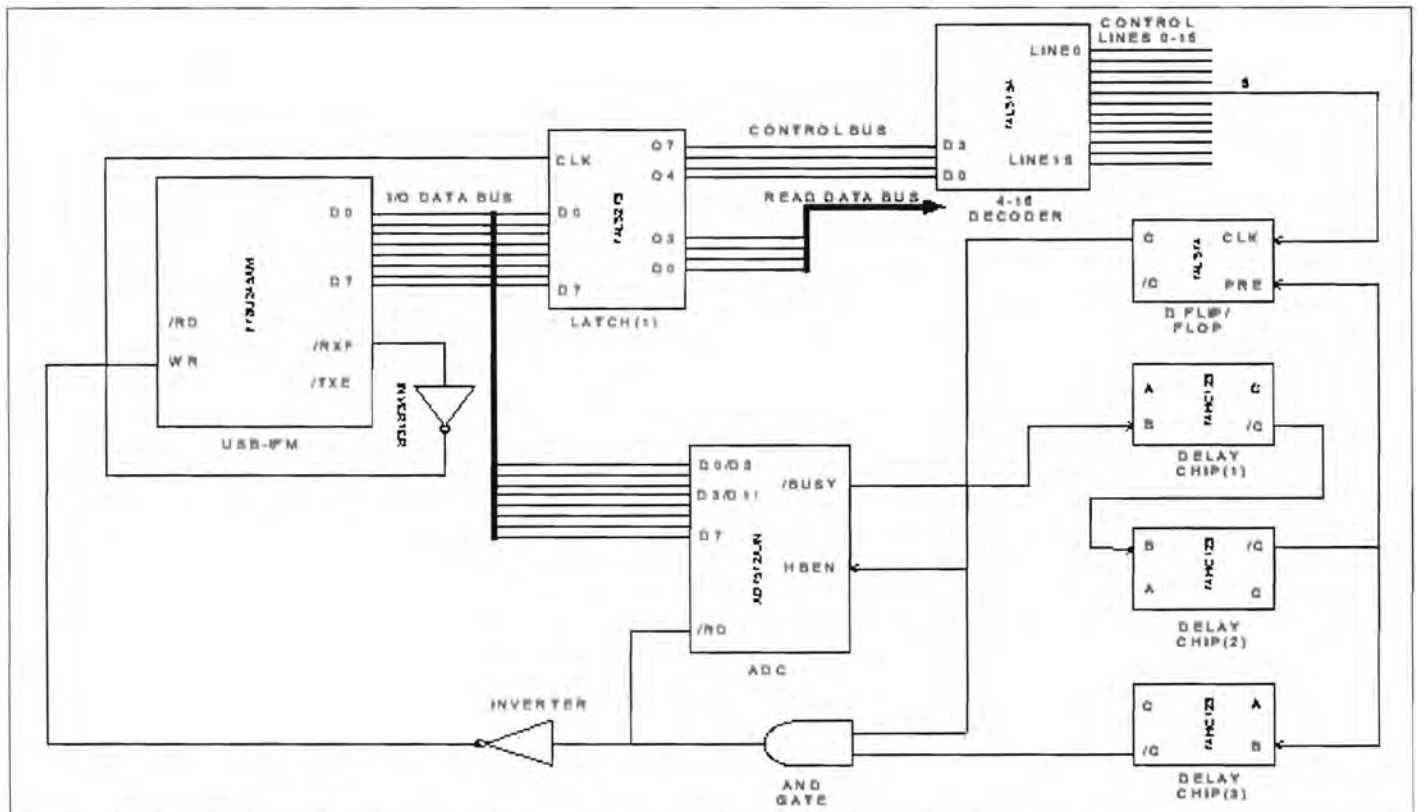

Figure 7: Interfacing USB-IFM to ADC
The full logic circuit design for interfacing the USB-IFM to the ADC is shown in **Figure 7**. The 8-bit I/O Data Bus and Control Line (5) of the basic USB logic interface circuit (see **Figure 5**) are used. The 8 ADC output data lines D0-D3 (or D8-D11) and D4-D7 are connected to the 8-bit I/O Data Bus. The Control Line (5) is taken to the /RD input of the ADC via a D flip-flop (74LS74) and an AND gate.